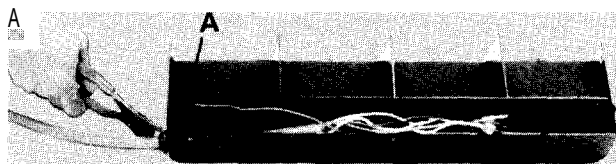

Fig. 24
- 1) Remove the cover from the footswitch by removing (2) #10-32 x 3/8" machine screws, one from each end of the footswitch, and (3) #10-24 x 3/8" self tapping screws along the back of the footswitch.
- 2) Disconnect cord by pulling apart the (7) quick connect wire connectors and removing the (1) #10-24 x 3/8" self tapping screw, Item A, Fig. 24.
- 3) Grasp strain relief bushing with hand pliers (See Special Tools on Page 19), squeeze tab on bushing, and pull bushing out of hole in footswitch. See Fig. 24.
- 4) Position strain relief bushing on the cord, close the bushing, grasp bushing with the hand pliers squeezing the tab, and push bushing into hole in footswitch. See Fig. 24.
- 5) Connect cord to footswitch wires by mating the (7) quick connect wire connectors, matching the wire colors on the cord wires and footswitch wires.
- 6) Install the (1) HO-24 x 3/8" self tapping screw, Item A, Fig. 24 through the green grounding wire terminal.
- 7) Place cover on footswitch, align holes, and install (2) #10-32 x 3/8" machine screws, one on each end of footswitch, and (3) #10-24 x 3/8" self-tapping screws along the back of the footswitch.